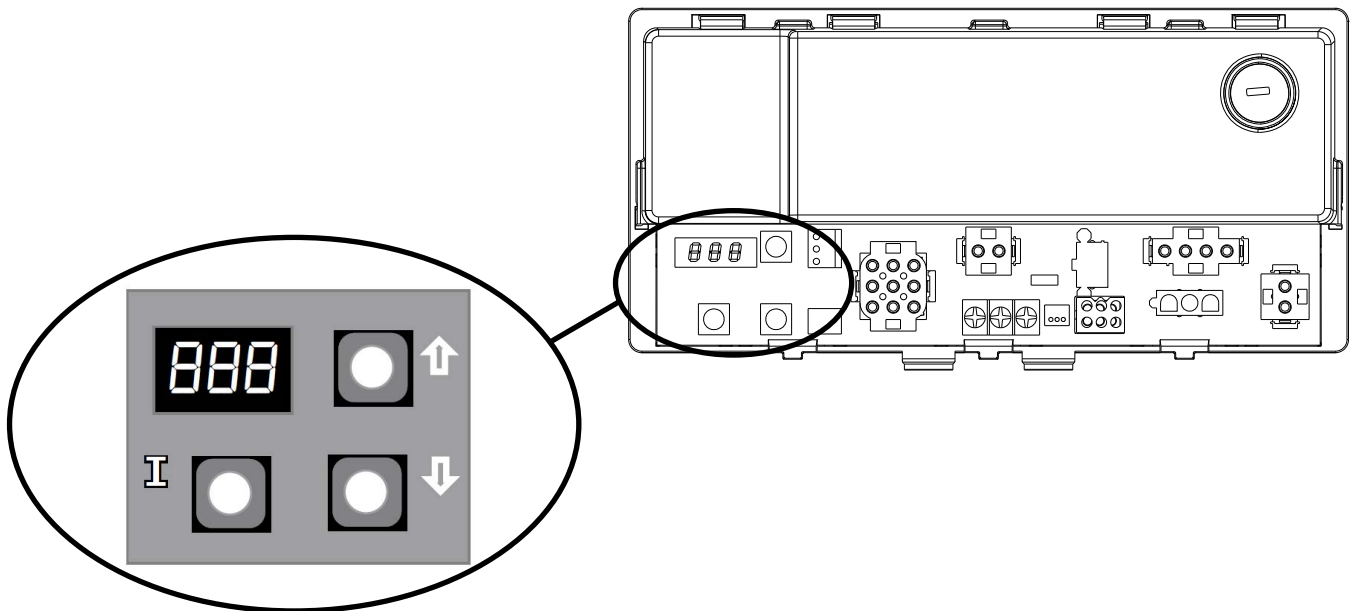

Figure 11.1: Location/Appearance Of LED, Buttons
The boiler’s status, as well as all parameters, are viewed and adjusted using the 3 digit LED and three buttons shown in Figure 11.1. The S9361A has four basic modes of operation (also see Figure 11.2):
2. Operating Mode - Provides additional information about the current status of the boiler. Operating mode is entered by pressing the **I** button shown in Figure 11.1. When this button is first pressed in Status mode, the display will alternately display *bE* and the current boiler water temperature as shown in Figure 11.4. Pressing the **I** button again will display the next line item shown in Table 11.3. In the same manner it is possible to advance through all of the “parameters” shown in Table 11.3. To return to Status mode, press **I** repeatedly until *5E#* once again appears on the display. Alternatively, the control will return to Status mode if no key is touched for 30 minutes.
F-L (Temperature Units) - Determines whether temperature units on the S9361A are displayed in F or C. Note that this selection only applies to the temperature displayed on the LED shown in Figure 11.1.